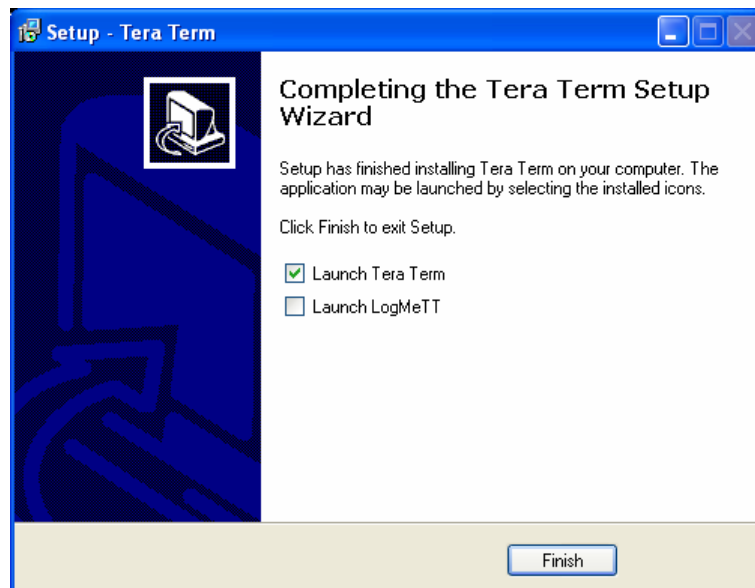

Figure 6-22: Completing the Tera Term Setup Screen
16. At the Completing the Tera Term Setup screen, click **Launch Tera Term**, then click **Finish** (Figure 6-22).